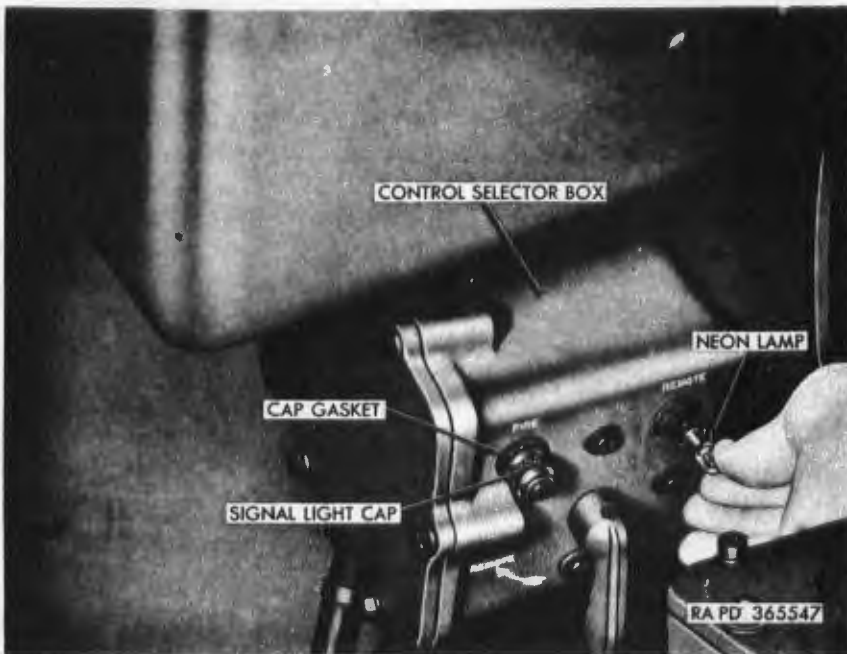

Figure 266. Replacing neon lamp in control selector box.
(1) Control selector box (fig. 266).